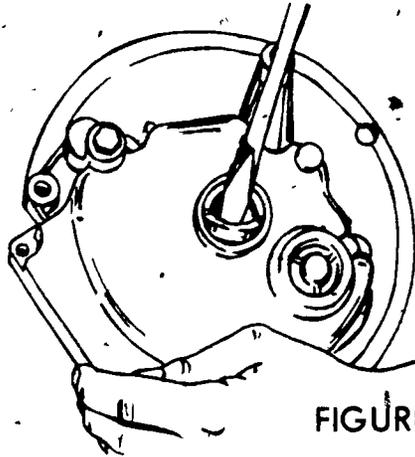

FIGURE 2
- b. Remove damaged seals (Figure 2)